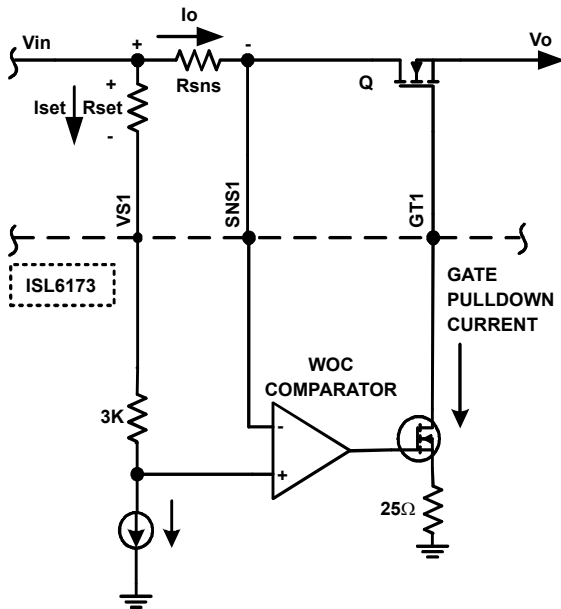

FIGURE 14. WOC OPERATION
**2. Way Overcurrent (WOC) Mode** - This mode is designed to handle very fast, very low impedance shorts on the load side, which can result in very high di/dt. Typically, the current limit set for this mode is 300% of the current regulation limit. This mode uses a very fast comparator, which directly looks at the voltage drop across  $R_{SNS}$  and pulls the gate very quickly to GND (as shown in Figure 14) and immediately releases it. If the WOC is still present, the IC enters current regulation mode and the rest of the current regulation behavior follows as described earlier in undercurrent regulation mode.